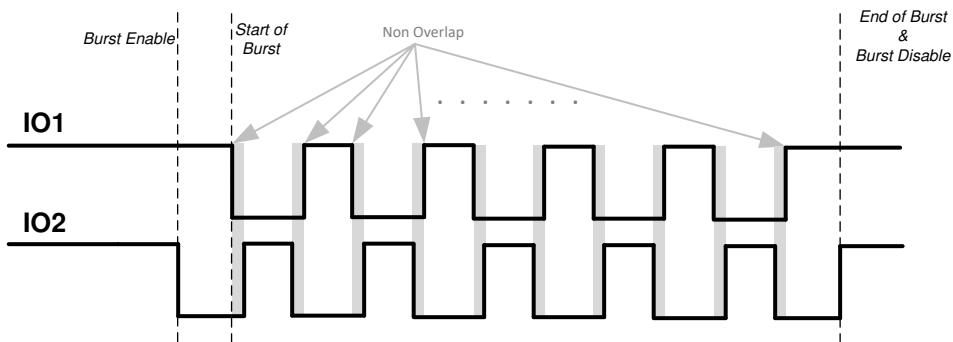

图 17. IO\_MODE 2 Description
- IO\_MODE = 2:** In this mode both IO1 and IO2 are used to control OUTA and OUTB. The burst enable is triggered when either IO1 or IO2 transitions from high to low. Start of burst (OUTA and OUTB changing state) happens only at the next falling edge of IO1. 图 17 shows the case where a high-to-low transition on IO2 is used to enable the burst. A burst is emulated when IO1 and IO2 are toggled in a non-overlapping sequence. After the start of burst, the state of OUTA and OUTB pins are determined by IO1 and IO2 pins as shown in 表 21. During a burst, if there is a condition where both IO1 and IO2 are high for more than half period of the internal clock  $f_{INT\_CLK}$  (caused by differential delays due to PCB parasitics or MCU code), an end of burst and burst mode disable will be triggered. Any falling edge just after this condition will be ignored to toggle OUTA and OUTB as it would be considered as a new burst enable signal. A systematic condition of overlap can cause a continuos end of burst trigger such that OUTA and OUTB do not toggle even though IO1 and IO2 are toggling. TI recommends no overlap or minimum non-overlap between the IO1 and IO2 signals when measured at the pins. BURST\\_PULSE has no effect in this mode.